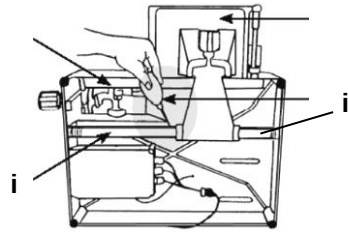

Fig. 16
- Regularly grease the carriage with a food-grade machine grease. Put the slicer on its side and apply a small amount of machine grease on both ends of the carriage axle (i) (**fig. 16**). Move the carriage forward and backward in order to distribute the grease evenly. Remove the excess grease with a cloth.